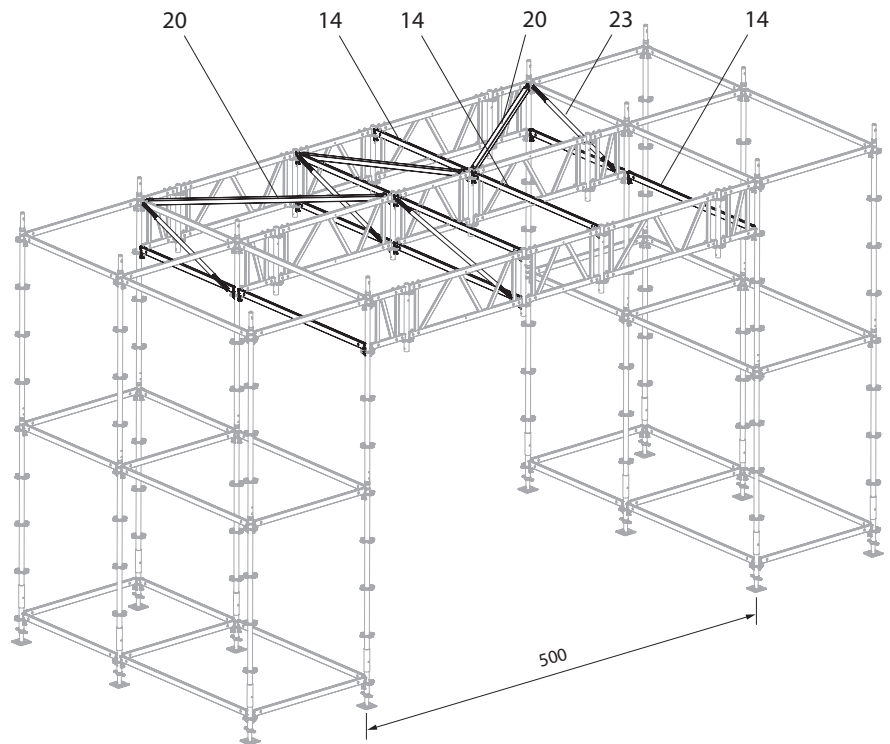

Fig. A13.05
1. Connect the lattice girders with Horizontal Ledgers UH Plus (14). Secure the wedges.
2. Install Ledger Braces UBL (23).
3. Install Horizontal Braces UBH Flex (20). (Fig. A13.05 + A13.05a)